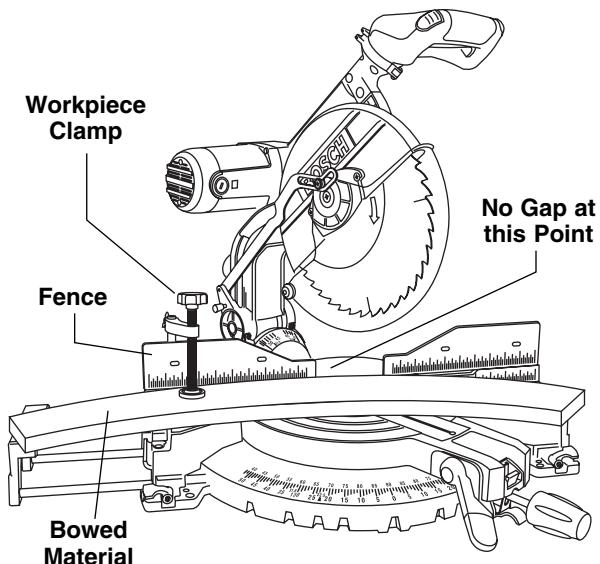

Figure 1. Bowed Material
**! WARNING** If workpiece is bowed or warped, clamp it with the outside bowed face toward the fence. Always make certain that there is no gap between the workpiece, fence and table along the line of cut. Bent or warped workpieces can twist or rock and may cause binding on the spinning saw blade while cutting (Figure 1).